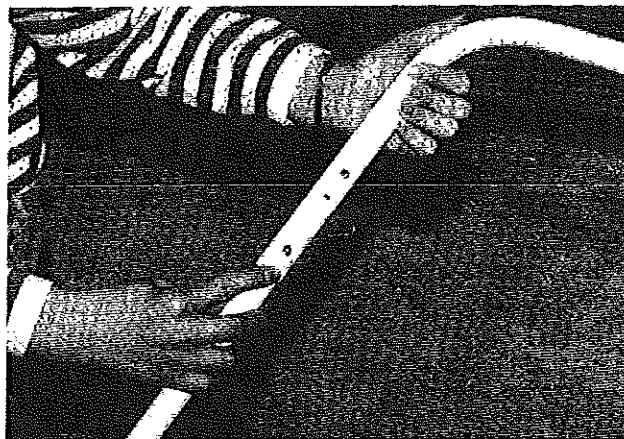

FIGURE 31
35. Adjust bed bow support as necessary to make the tent enclosure over the bed taut. This is done by pressing the release button on the pole and extending the rod to the next hole location. See Figure 31.